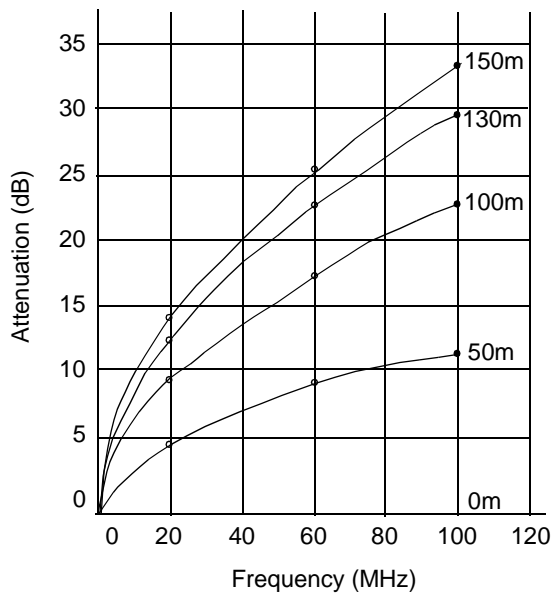

Figure 14. EIA/TIA Attenuation vs. Frequency for 0, 50, 100, 130 & 150 meters of CAT 5 cable
- In high-speed twisted pair signalling, the frequency content of the transmitted signal can vary greatly during normal operation based primarily on the randomness of the scrambled data stream and is thus susceptible to frequency dependent attenuation (see Figure 14). This variation in signal attenuation caused by frequency vari-